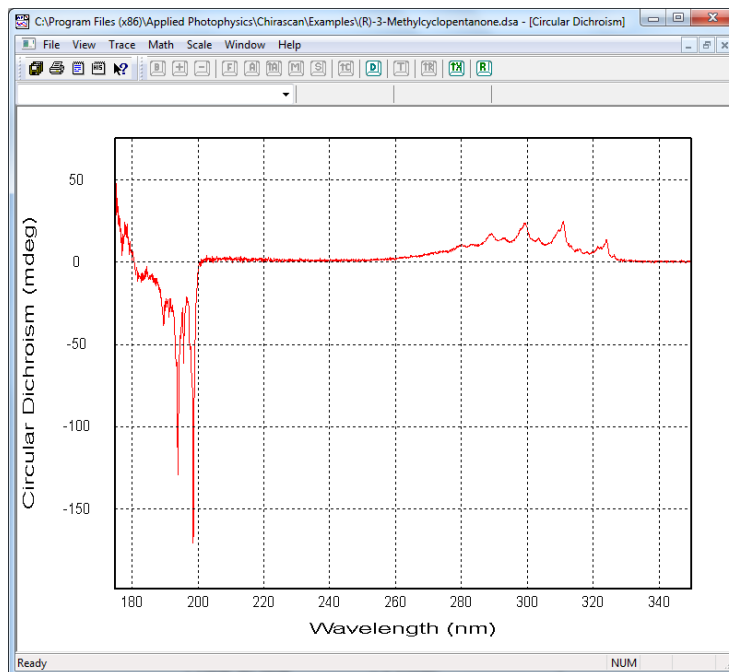

Figure 2.30: CD spectrum of (R)-3-methylcyclopentanone
2.9.8 (R)-3-methylecyclopentanone
The CD spectrum of (R)-3-methylcyclopentanone, plotted as CD (mdeg) against wavelength (nm) is shown in Figure 2.30. The operating conditions are given in Table 2.11.
Table 2.11: operating conditions for the spectrum in Figure 2.30